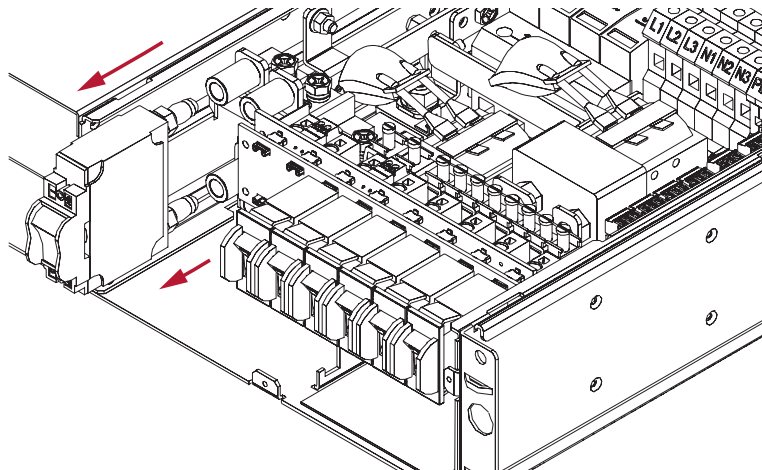

Figure 7-7 Pulling out a faulty breaker
2. Pull out the faulty breakers Figure 7-7.